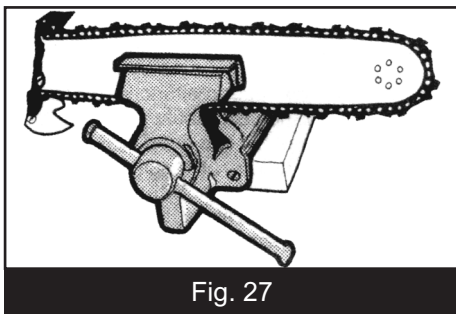

Fig. 27
2. Fasten the bar in a vice so that the chain can slide (Fig.27)